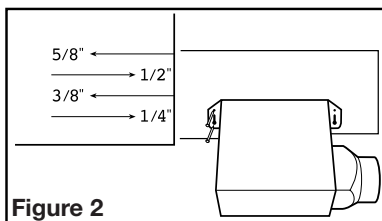
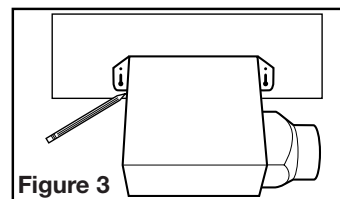

Figure 2
Figure 3
- Using the gauge on the fan's housing (Figure 2), line up housing so that it will be flush with the finished ceiling or wall. Position the fan so that the tabs rest flat against the joist or stud and secure with four nails (not provided) to ensure proper installation.
- Position housing against the joist or stud and trace an outline of the housing onto the ceiling/wall material (Figure 3). Set housing aside and cut opening, being careful not to cut or damage any electrical or other hidden utilities. Place housing next to the joist or stud and insure that it is flush with the finished ceiling. Secure with four nails (not provided) to ensure proper installation (Figure 2).